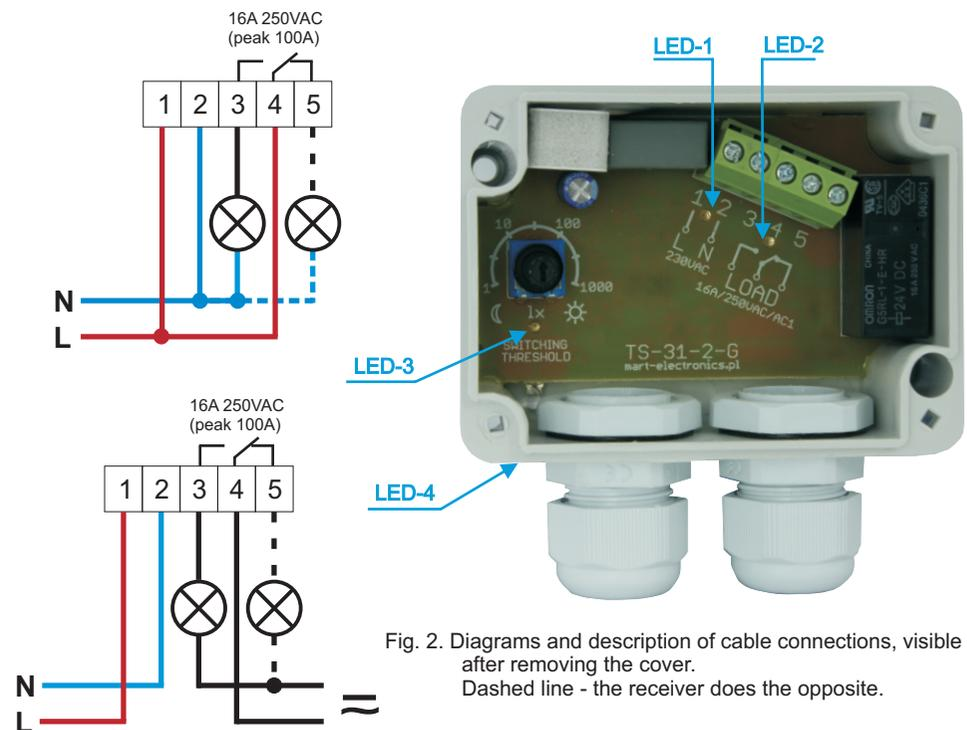

Fig. 2. Diagrams and description of cable connections, visible after removing the cover. Dashed line - the receiver does the opposite.
- >> traffic light (LED) with operating status (fig. 2):
Before installing the TWILIGHT SWITCH, remove the cover by unscrewing the four mounting screws. After removing the cover of TS-31-2-G.4 TWILIGHT SWITCH mounting clamps 1, 2, 3, 4, 5, description of electric wires connection and a knob for setting the activation threshold are available - Fig. 2